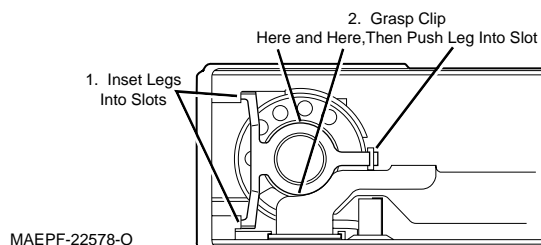

Figure 40-13.
- c. Reinstall the speaker retainer bracket (see Figure 40-13).